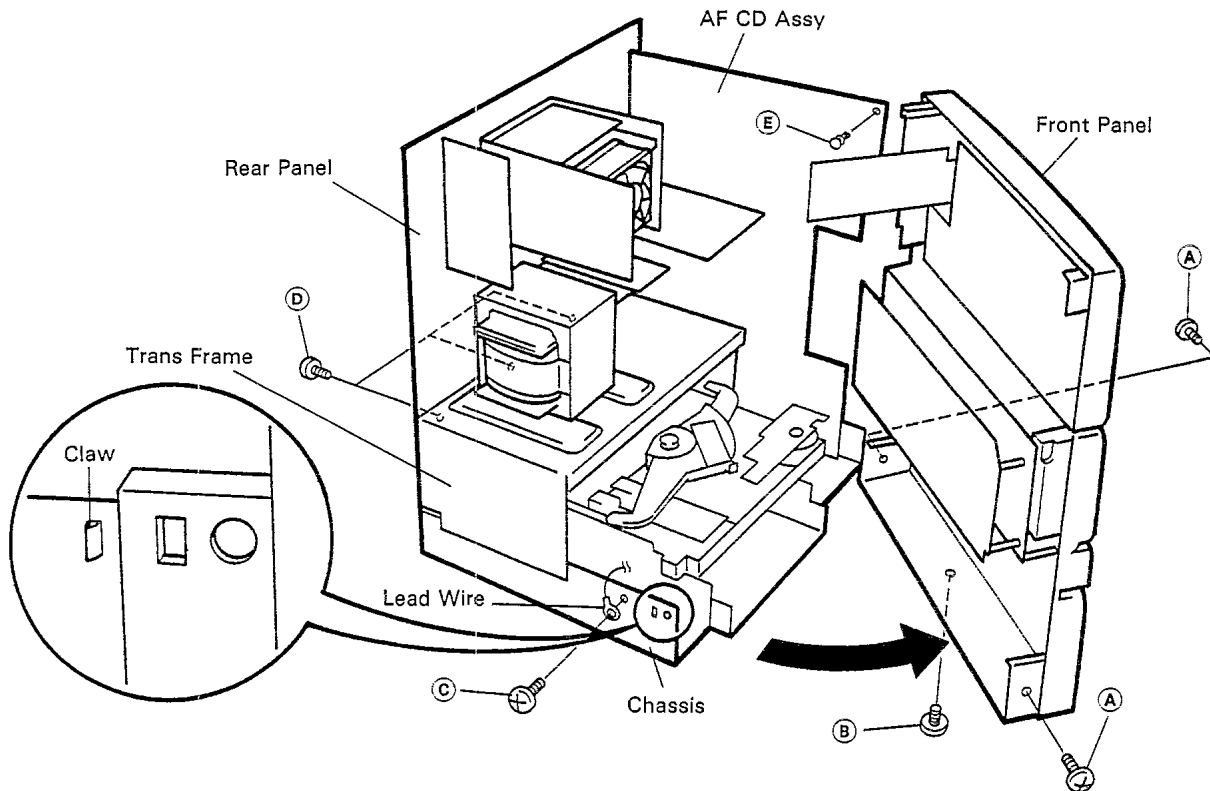

Fig. 1
2. Remove the nylon rivet (E) between the front panel and AF CD Assy.
- L/R sides: (A) × 2
- Bottom side: (B) × 1
- Screw: (C) × 1
5. Remove the front panel from the chassis (watching out for the claw on the left and right), and open the side of the AF CD Assy. (Refer to Fig. 1)